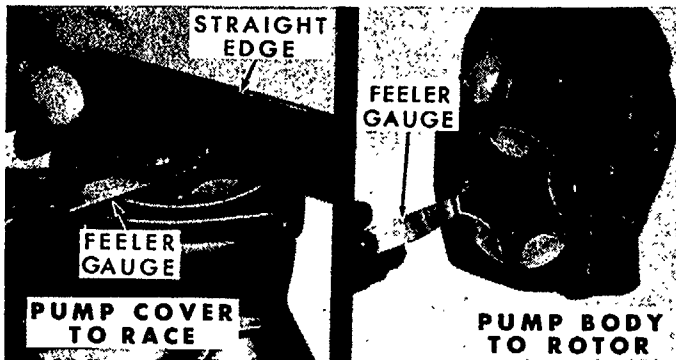

Figure 41
4. With the rotor and shaft assembly installed in the pump body, place a straight edge over the rotor and shaft assembly and the pump body. Measure the clearance between the straight edge and the inner rotor and shaft assembly and between the straight edge and the outer rotor, Figure 41. If the measurement is not within specifications, see page 66, install a new rotor assembly.